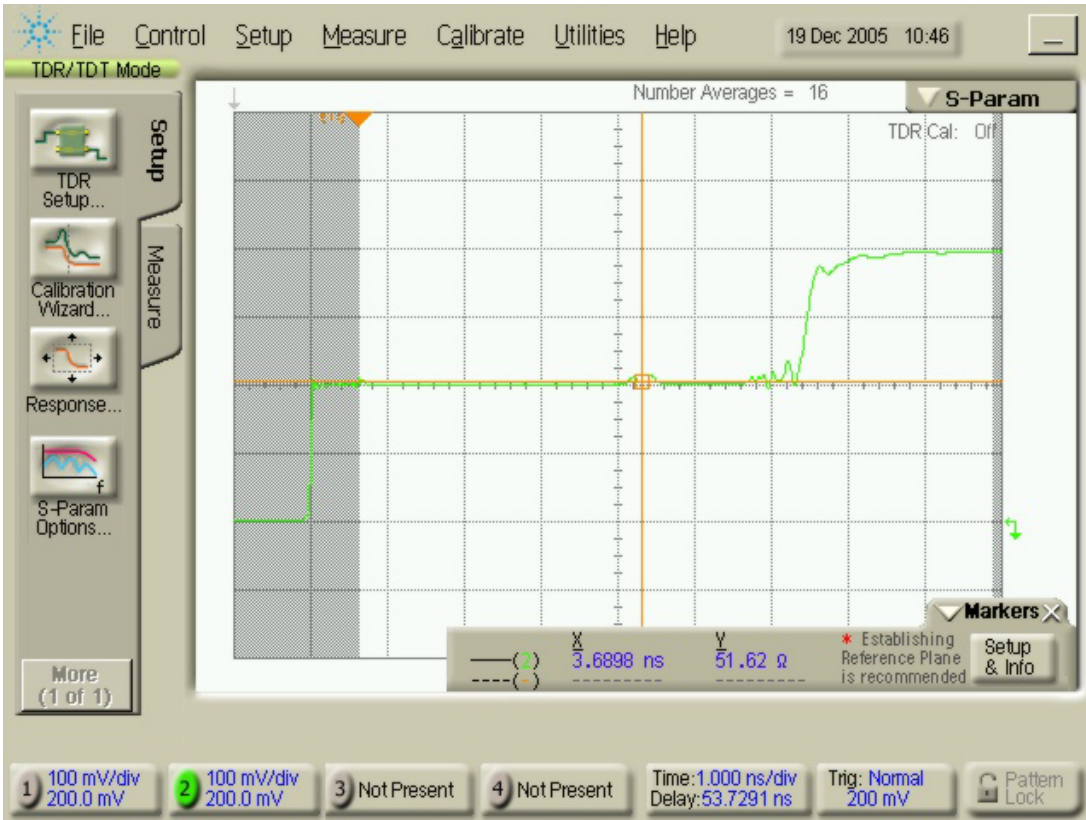

Fig. 2 Good Module Cable
4. Insert cable into bottom coax connector. While holding the connector in the module, move the connector up and down. This will flex the cable in the module. If the cable is good, the new rising edge will be a little more than two nsec from the marker. See fig 2 good cable.